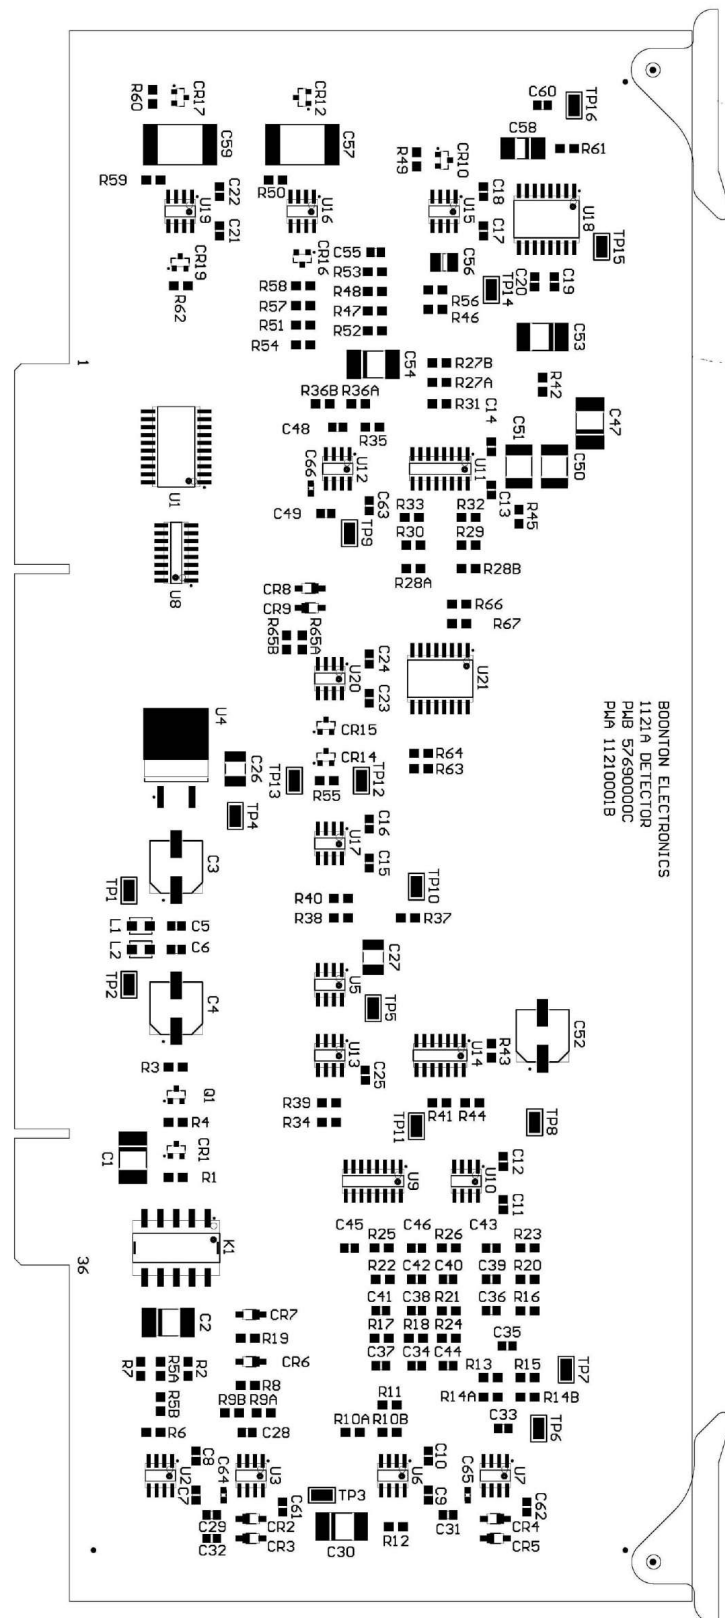

Figure 6-6. PWA '1121A' Detector (A3)
**11210001A PWA DETECTOR 1121A (A3) (Figure 6-6)**